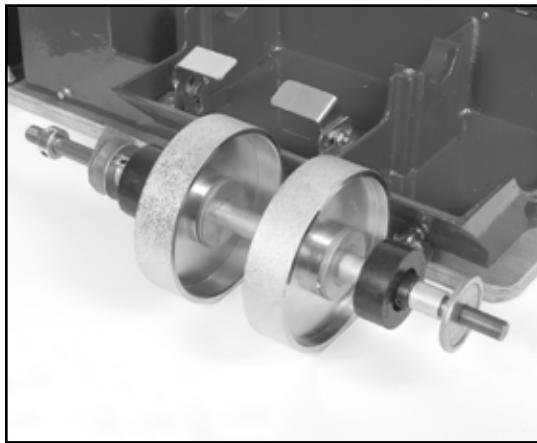

Fig 48 - Shaft assembly removed from Cab Combo Workshop
9. Lift the shaft assembly out of the bearing seats (fig 48).